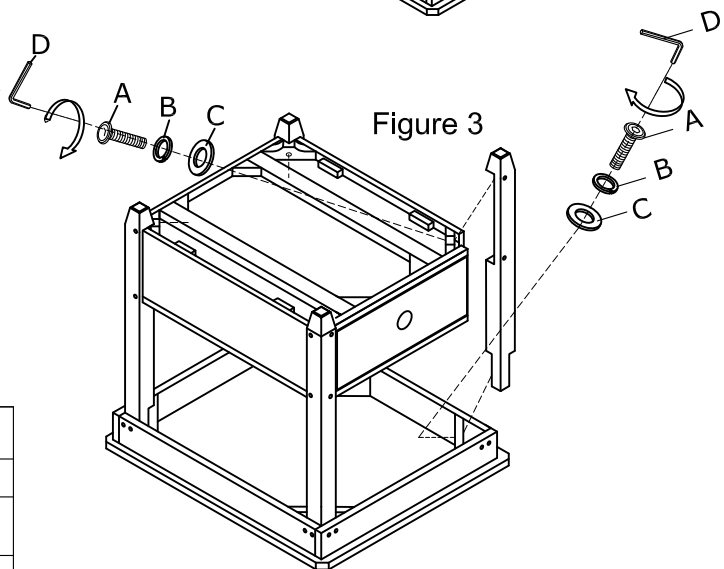

Figure 3
3. Attach the other leg to the shelf and the table top using Flat Washer (C), Lock Washer (B) and Bolt (A), tighten with the Allen Wrench (D). As Shown in Figure 3. (Do not over tighten bolts during assembly)